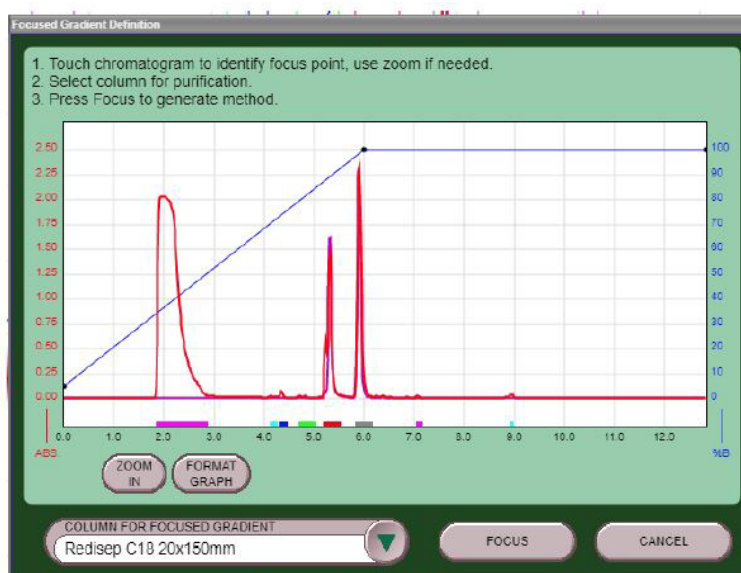

Figure 2-8 Focus Gradient-Focus Interface screen
4. Select FOCUS, and an optimized method will be generated (Figure 2-8).